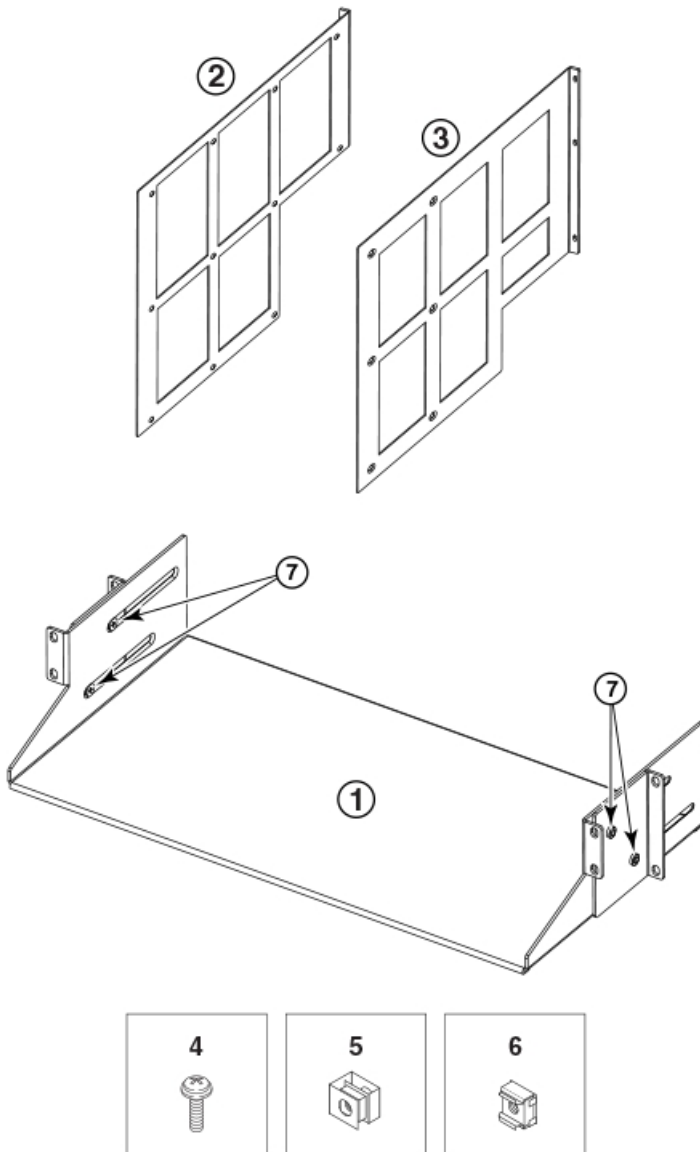
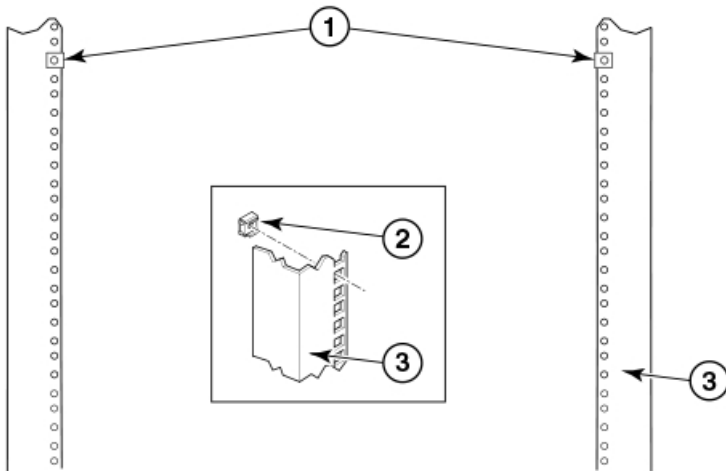

Figure 16. Rack kit parts
Figure 18. Using clip nuts and retainer nuts to secure screws to rack rails
2. Install the saddle to the equipment rack rails using the following steps while referring to the following figure. Also refer to Figure 18 on page 36 for details on securing screws to equipment rack.
**Note:** For rails with round holes, use the clip nuts (refer to Figure 16 on page 34) on the rack rails for securing 10-32 screws. For rails with square holes, use the retainer nuts (refer to Figure 16 on page 34). Also refer the following figure.
**Note:** For rails with round holes, use the clip nuts on the rack rails for securing 10-32 screws. For rails with square holes, use the retainer nuts (refer to Figure 16 on page 34). Also refer to Figure 18 on page 36.